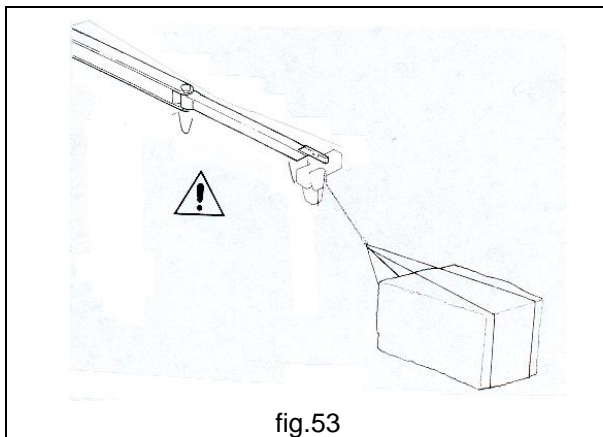

fig.53
- **During lifting manoeuvres** the operator must avoid resting the hook on the ground or on loads to be lifted, to avoid free oscillation of the chain. The operator must absolutely avoid making skew falls with the chain, which are always dangerous and difficult to control (fig.53).